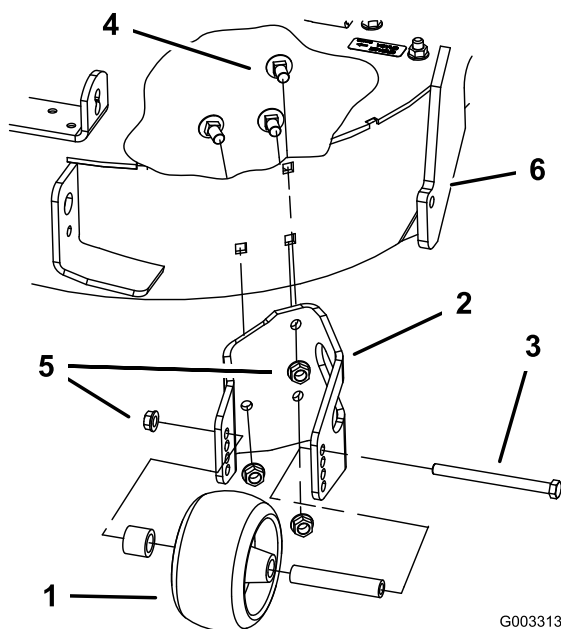

Figure 4
2. Remove the anti-scalp roller from the bracket by loosening and removing the flange nut (3/8 inch) and axle bolt (3/8 x 4-1/2 inch) as shown in Figure 4. Save all hardware for later use.
3. Remove the three carriage bolts (3/8 x 3/4 inch) and flange nuts (3/8 inch) securing the bracket to the mower (Figure 4). Save all hardware for later use.